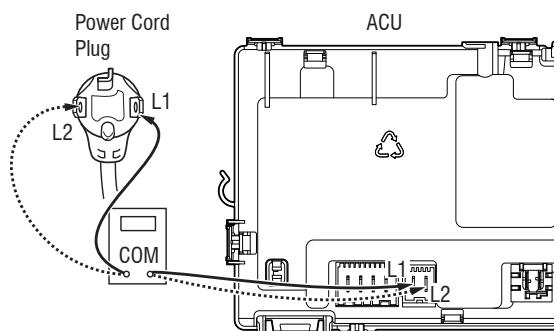

Figure 4b - Plug-to-terminal connections for electric dryer
- 3. With an ohmmeter, check the continuity from L1 and L2 plug terminals of the power cord to the terminals for L1 and L2 on the ACU. See figure 4b.**